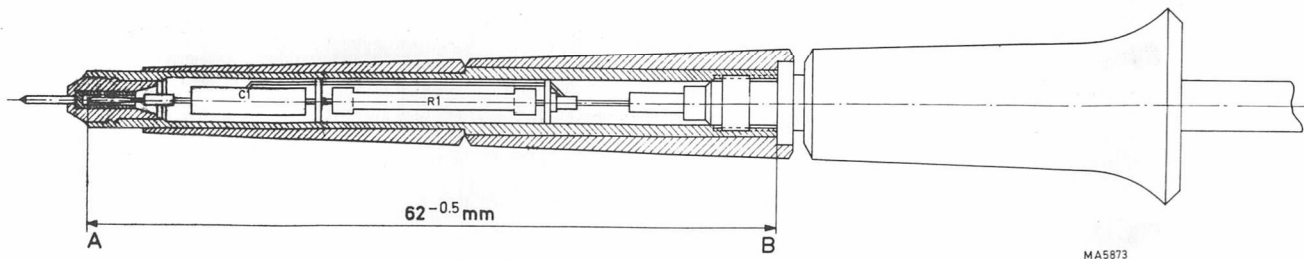

Fig. 3.2.1. Fitting of the RC-combination
When assembling the measuring probe, the RC assembly must be at dead centre in the probe tip (Fig. 3.2.1.).
Ensure that the correct distance between the top of plug (A) and the frontside of the earthing ring (B) is maintained. The distance AB must be $62^{-0.5}$ mm (see Fig. 3.2.1.).